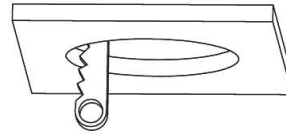
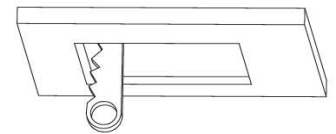

Figure 1
Figure 1A
2. After marking the center point of where the fixture will be located, using the provided template cut the required hole shown in figure 1 or figure 1A if the light is square.